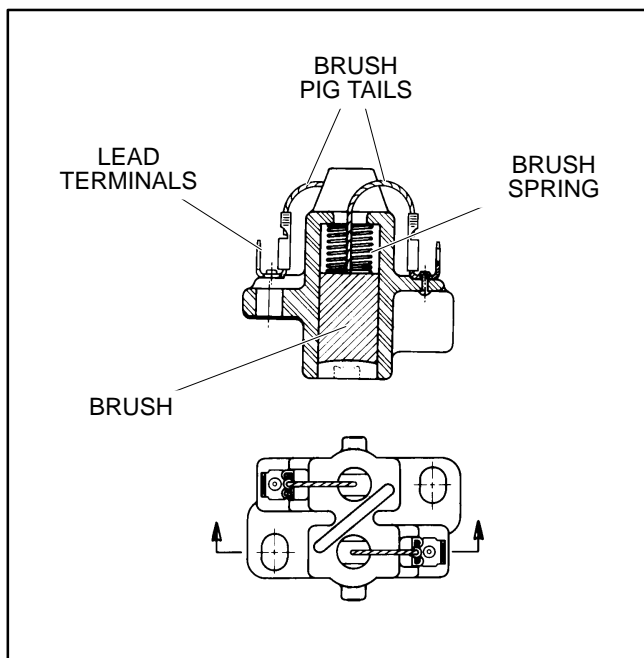

FIGURE 68. BRUSH BLOCK ASSEMBLY
4. Replace the brushes and brush springs with new parts. Connect each brush pigtail to the terminal on its side of the insulating divide (Figure 68).
To check the field voltage, remove the brush block cover and connect a DC voltmeter to the brush block terminals. See Figure 68 (p. 67). Connect the positive lead to the **B+** (outboard) terminal and the negative lead to the **B-** (inboard) terminal.